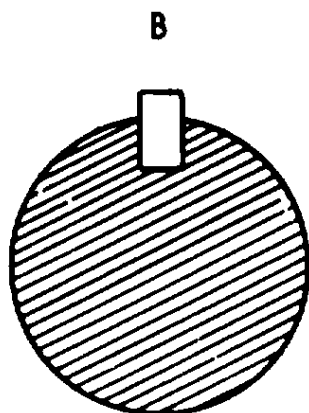

Figure 3-189. Camshaft gear key from gear case end.
(4) Note type of key used. See figure 3-189 "B"-straight, as viewed from gear case of engine.